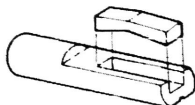

FIGURE 4
2. Place original dial, using shaft adaptors on dial shaft. Measure distance from back of dial to panel front. See figure 4 for assembly of spring clip adaptor.